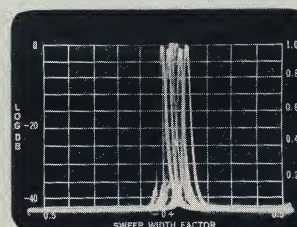

FIGURE 6
**Incidental FM: (Residual FM)** The short term jitter or undesired FM deviation of a local oscillator. (Tends to limit "Resolution" when "Incidental FM" approaches "I-F Bandwidth" in magnitude.) (See Figure 6)